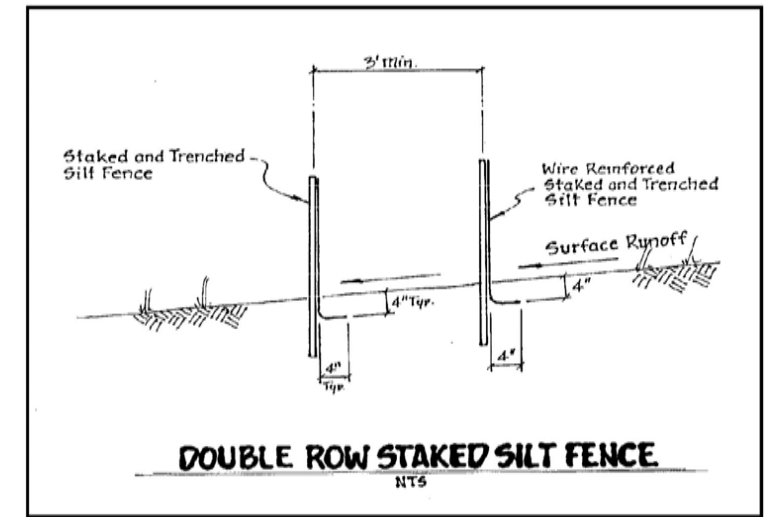

Figure 4.4c. Double Row Staked Silt Fence
10. The most effective application consists of a double row of silt fences spaced a minimum of 3 feet apart, so that if the first row collapses it will not fall on the second row. Wire or synthetic mesh may be used to reinforce the first row (see Figure 4.4c).